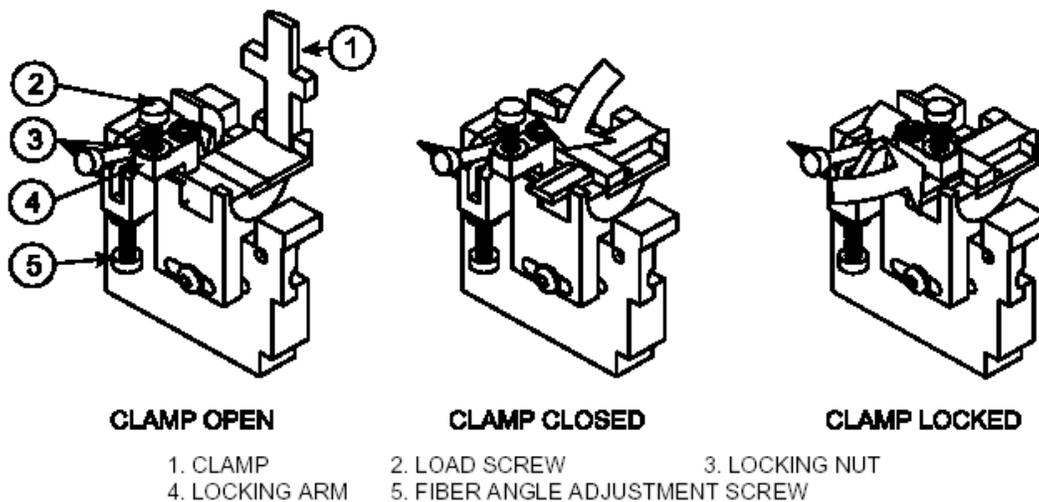
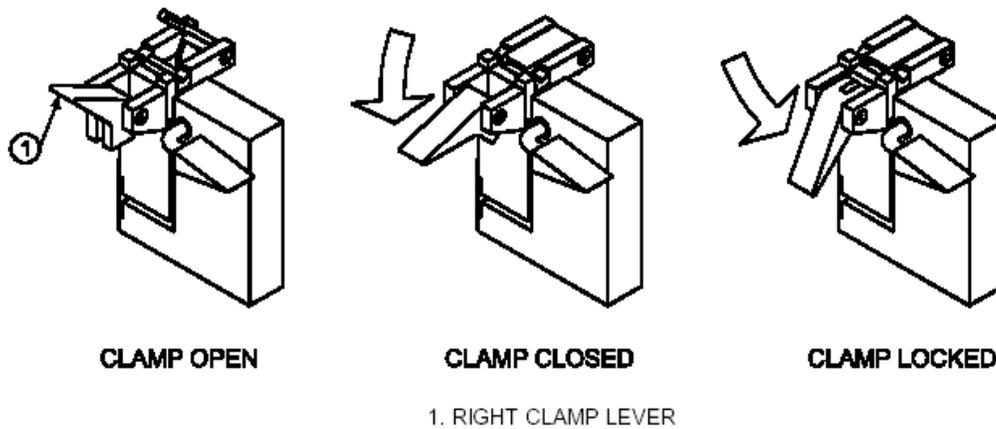

Figure 2: Left Clamp and Lever Assembly
Figure 3: Right Clamp and Lever Assembly
2. Left Clamp and Lever Assembly (shown in detail in Figure 2)
3. Right Clamp and Lever Assembly (shown in detail in Figure 3)
4. Lower the Right Clamp Lever to the CLOSED position (see Figure 3). Lower the Left Clamp Lever (see Figure 2) with the fiber in the center of the clamp pad.
Wrong end angle	Adjust Fiber Angle Adjustment screw shown in Figure 2.